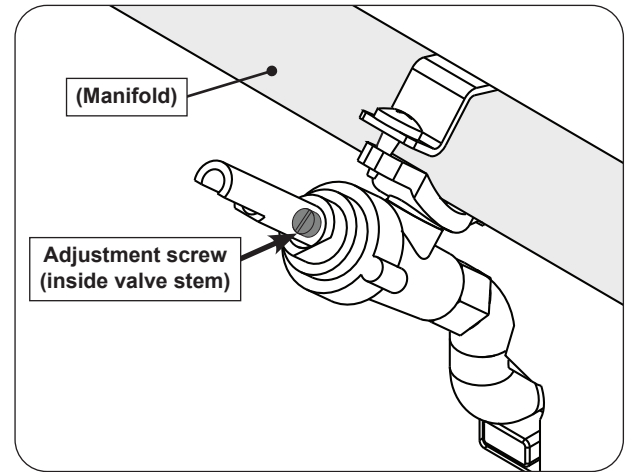

Fig. 55-1 Valve adjustment screw location
4. Locate the FLATHEAD adjustment screw found inside the valve stem (see Fig. 55-1).